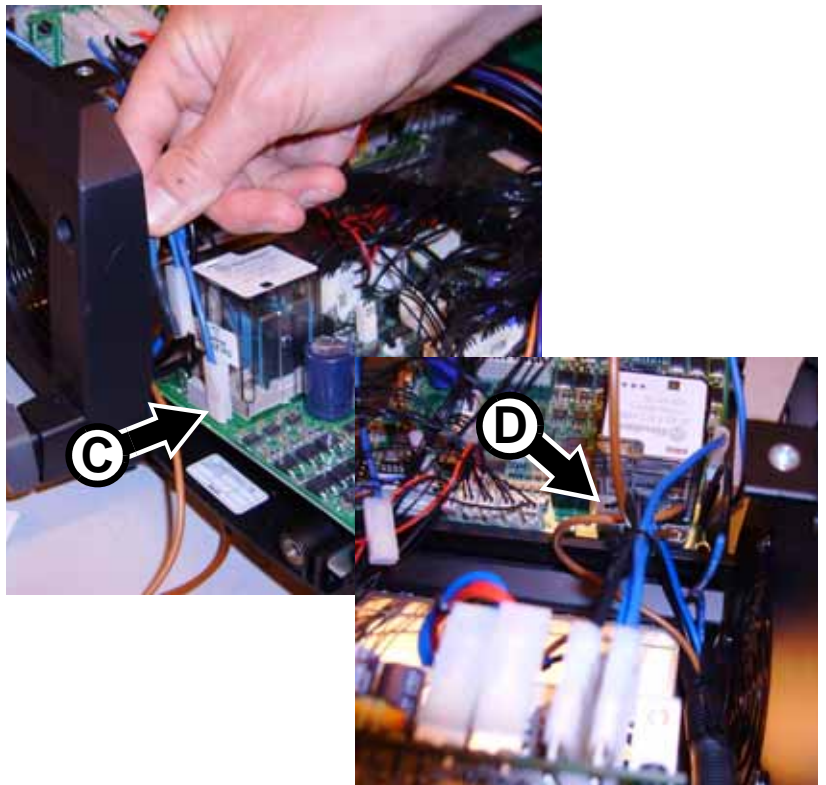

Figure 30
32. See Figure 30. Connect the other end of the short blue lead **C** to spade connector J6 beside the lamp on/off relay on the main PCB. Connect the other end of the short black lead **D** to spade connector J4 on the other side of the lamp on/off relay.